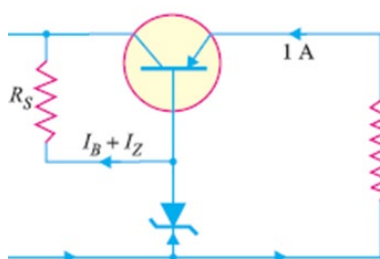

Figure B1.1
- a. A series voltage regulator shown in Figure B1.1 is required to supply a current of 1.2A at a constant voltage of 6V. If the input voltage is 15V, $\beta = 50$, $V_{BE} = 0.6V$ and minimum zener current = 5.6mA. Calculate: